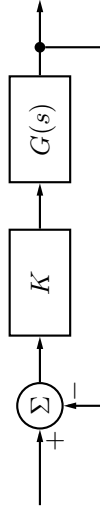
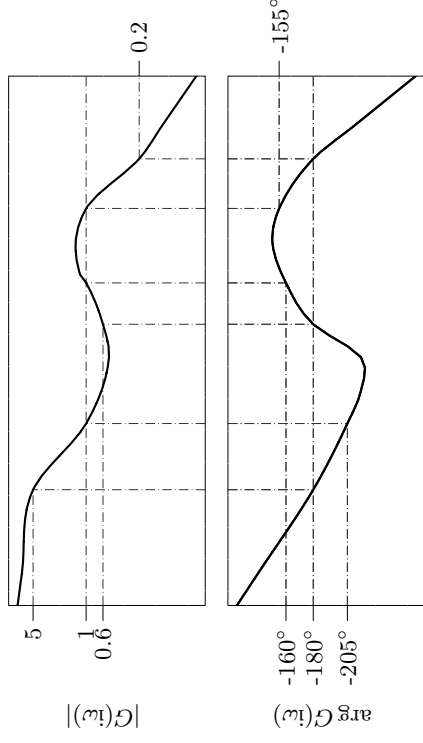

Figure 5.7a
Figure 5.7b
5.7 The amplitude curves and the phase curves in Figure 5.7b have been measured for a system without poles in the right half plane. The system is controlled using feedback according to Figure 5.7a. Use the Nyquist criterion to decide for which values of  $K$  the closed loop system is stable ( $K > 0$ ).